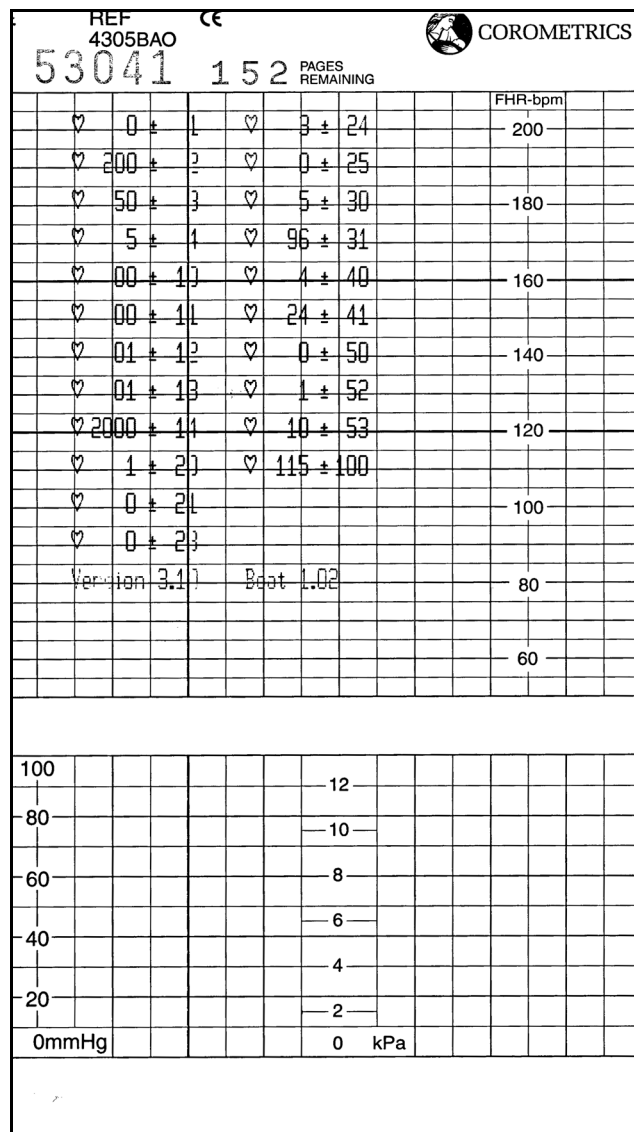

Figure 4-13. Configuration Summary Printout
2. Press the **Record** button . **Figure 4-13** shows a sample printout.